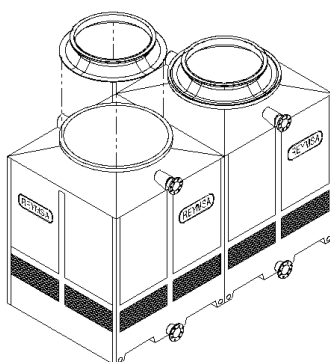

Figure A-38: Fan Adaptor 2 Installation
- B. For the Double Fan, Quadruple Fan and Modular Towers, follow the same instructions described in previous step to install remaining Fan Adaptors (see Figure A-38 for an example). Each Fan Adaptor is labeled with a number on the inside of the upper edge; for a correct installation, this number must match the number on the corresponding receiving flange.